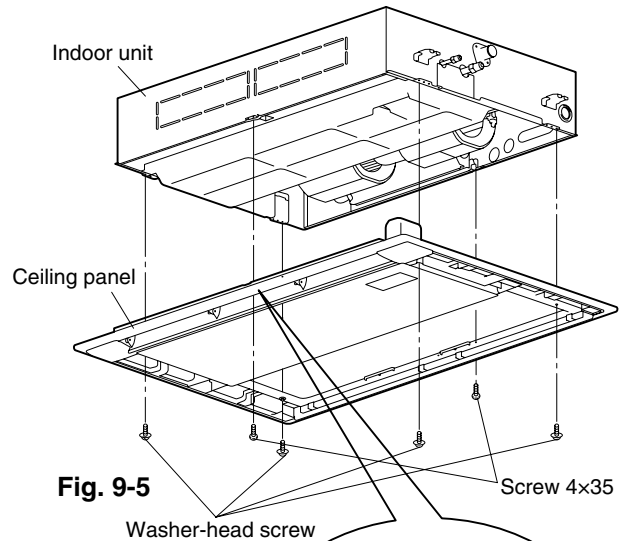

Fig. 9-5
- (5) Align the panel installation holes with the screw holes in the indoor unit.
- (6) Fit the supplied washer-head screws into the 4 panel installation holes, and tighten them until the panel is tightly attached to the indoor unit. (Fig. 9-5)